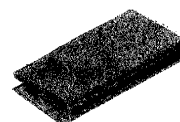

Fig. 17 — C Clip Terminal Insulator
6.10 The C clip terminal insulator is red plastic, Fig. 17, and is designed for identification and mechanical protection of two terminals on 66G-type connecting blocks. The insulator is approximately 1/2-inch long with closed ends.